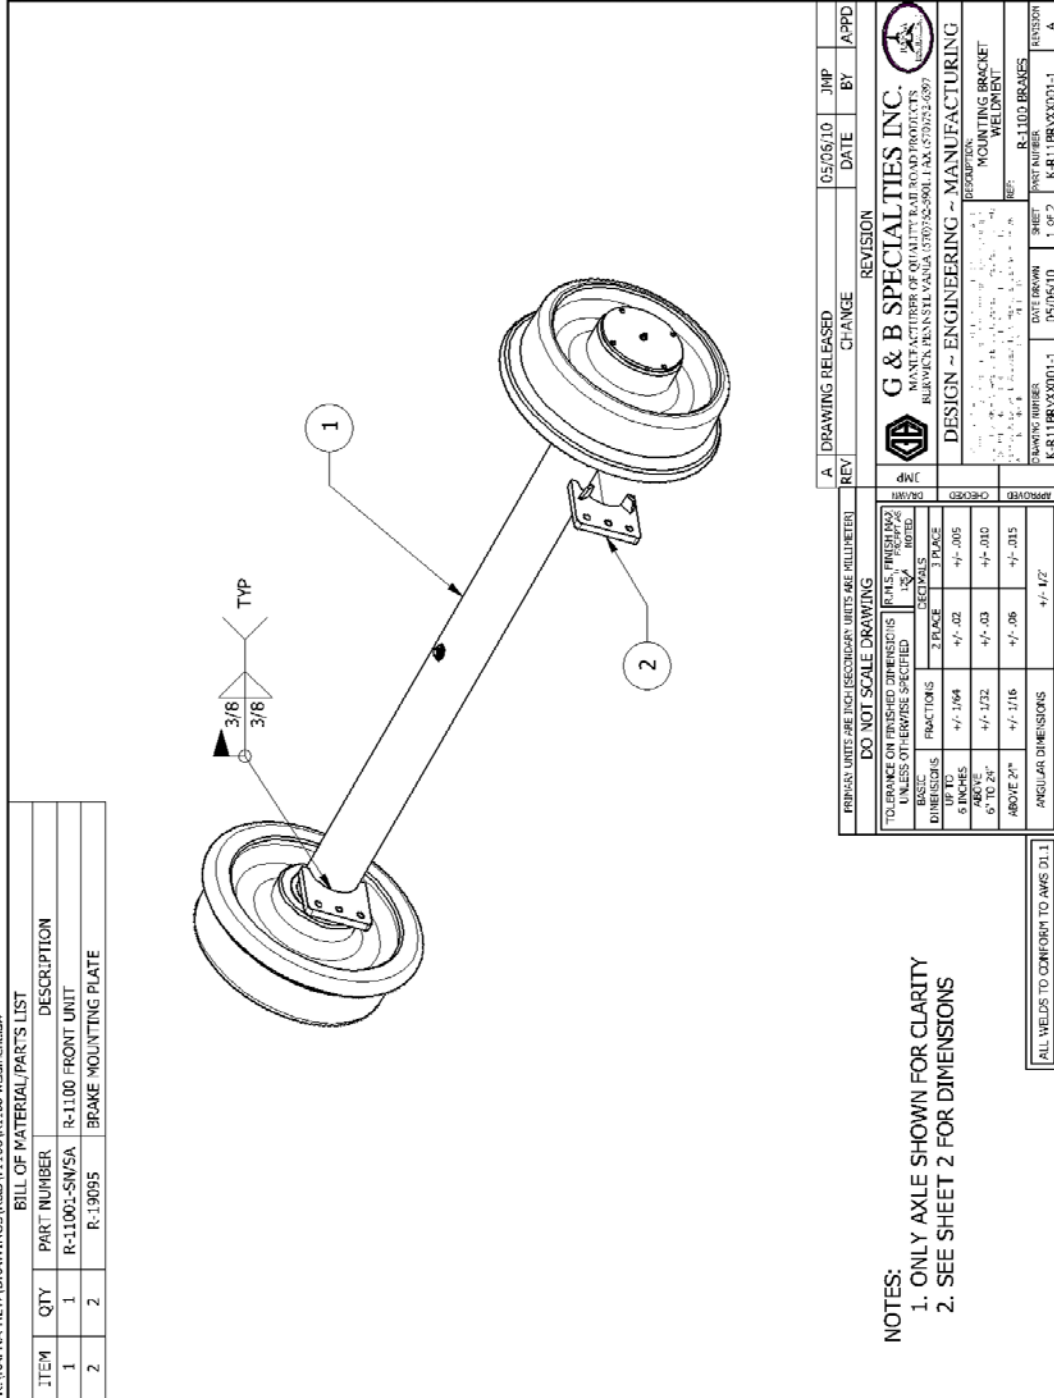

Figure 1A
3. Field weld mounting plates to axle according to Figure 1A/B located in the Parts section of the manual. Ensure the 20° above the horizontal center in rail position.